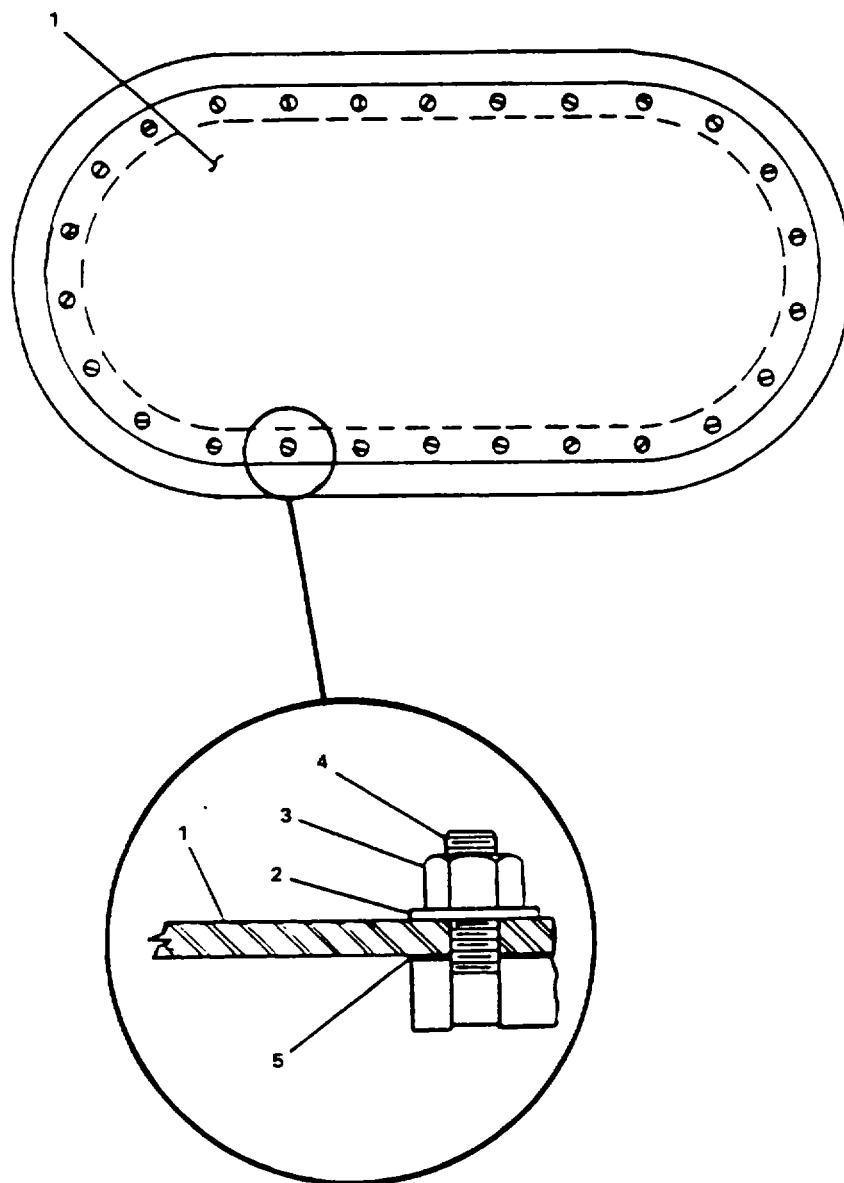

Figure 2-41. Manhole (Bolted Plate. Raised).
- a. Remove nuts (3, Figure 2-41) and washers (2) from stud (4).
- b. Remove manhole cover (1) from closure.
- c. Remove gasket (5) from manhole cover.